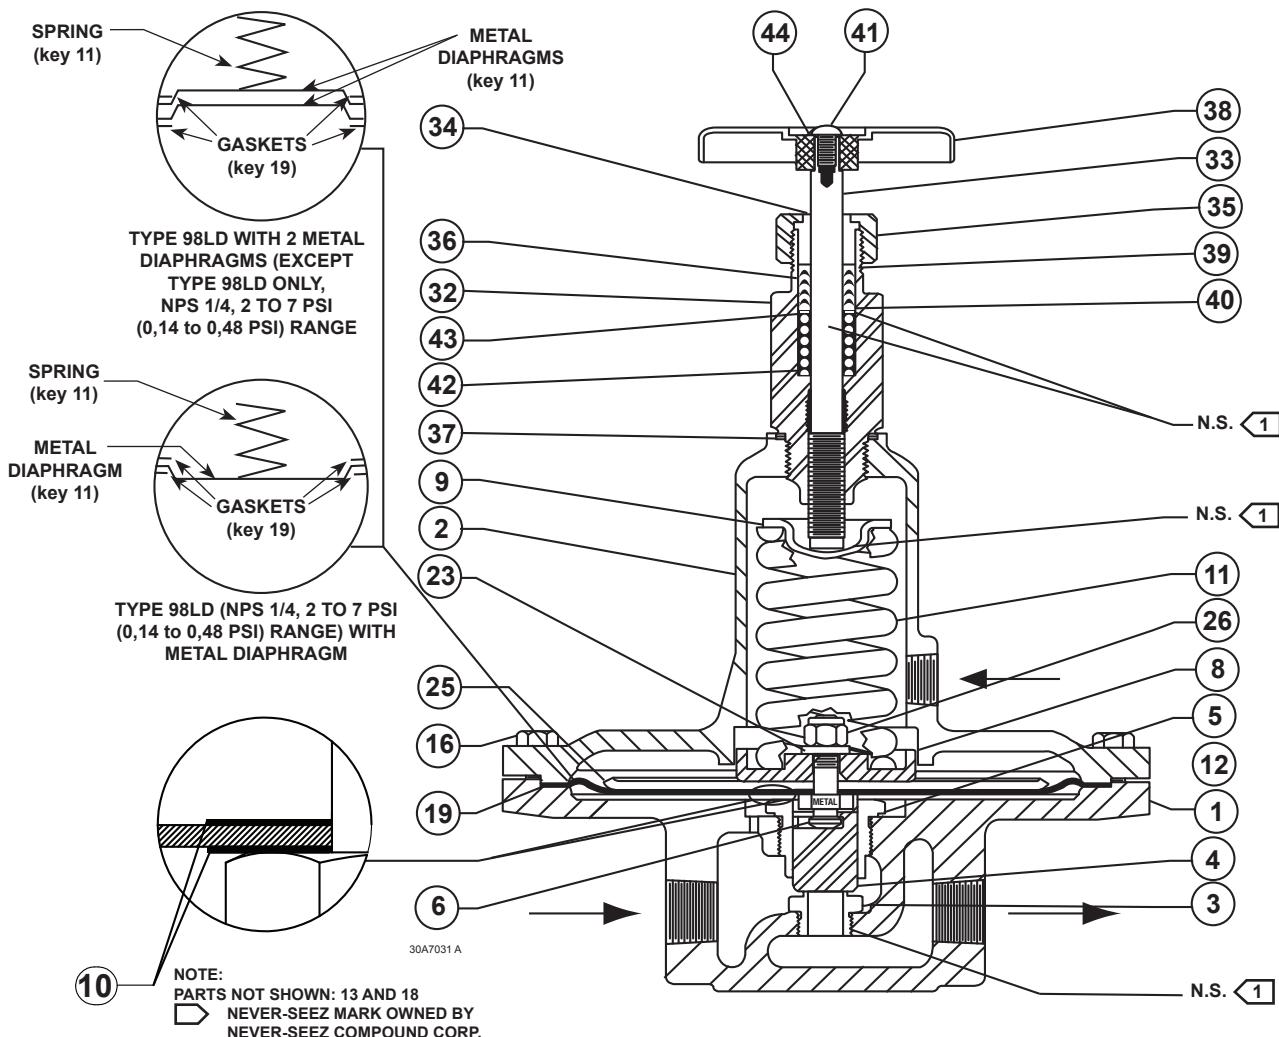

Figure 4. Type 98LD Relief Valve Assembly
Always use a pressure gauge to monitor pressure when making adjustments. If the differential pressure needs to be increased, turn the handwheel (key 38, Figure 4 or 5) clockwise. Turn the handwheel counterclockwise to decrease the differential pressure.
to inspect internal parts. Suitable lubricants are indicated on the assembly drawings. Apply the lubricant as the relief valve is being reassembled. Refer to Figure 4 or 5 while servicing the relief valve.
diaphragm (the metal diaphragm is in between two diaphragm gaskets). Another diaphragm gasket is placed above the second diaphragm. The raised surfaces of the metal diaphragms should be placed in the unit so that they are facing toward the assembler (toward the spring) except only when one metal diaphragm is being used then the raised surface should be facing down (towards the body). See Figures 4 and 5 as references.